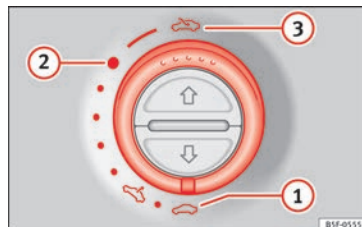

Fig. 11 On the interior roof lining: use the rotary button for opening and closing
- Opening: Turn the switch to position »» Fig. 11 ③.
- Convenience position: Turn the switch to position »» Fig. 11 ②.
»» Fig. 11 ①.